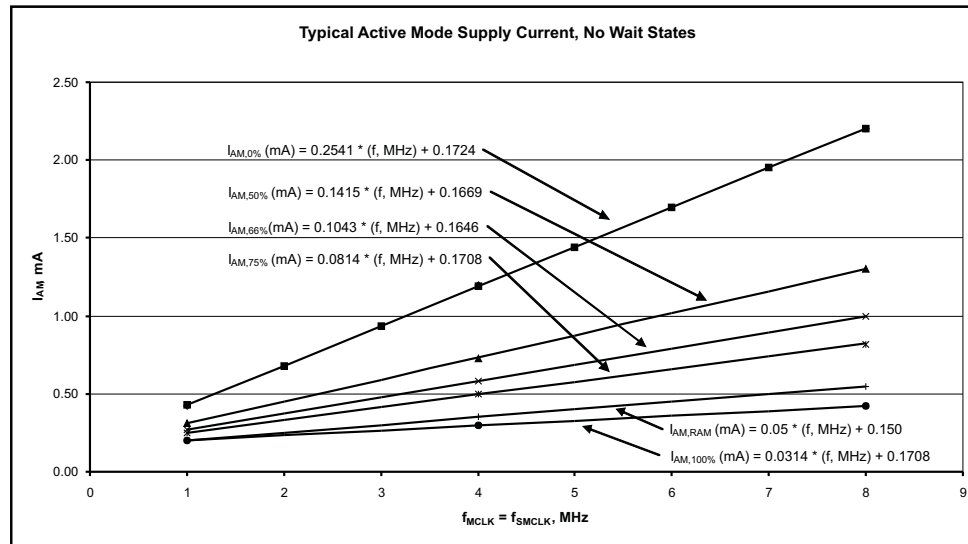

Figure 1. Typical Active Mode Supply Currents, No Wait States
- (8) See Figure 1 for typical curves. Each characteristic equation shown in the graph is computed using the least squares method for best linear fit using the typical data shown in Active Mode Supply Current Into \$V_{CC}\$ Excluding External Current.